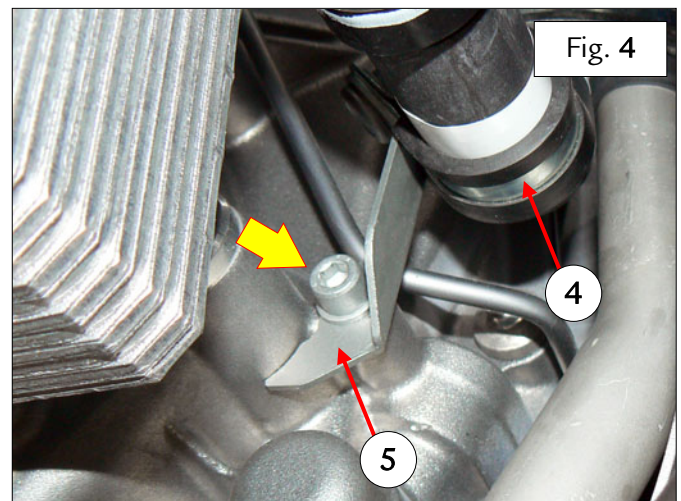

Fig. 4
Once the front shaft is removed from the gearbox, remove the retainer ring (5) then remove the nut (3) – Fig. 4.
- Undo the indicated screw then retrieve the clamp (4) and the mounting bracket (5) – Fig. 4.
- Refit the indicated breather plug – Fig. 4.